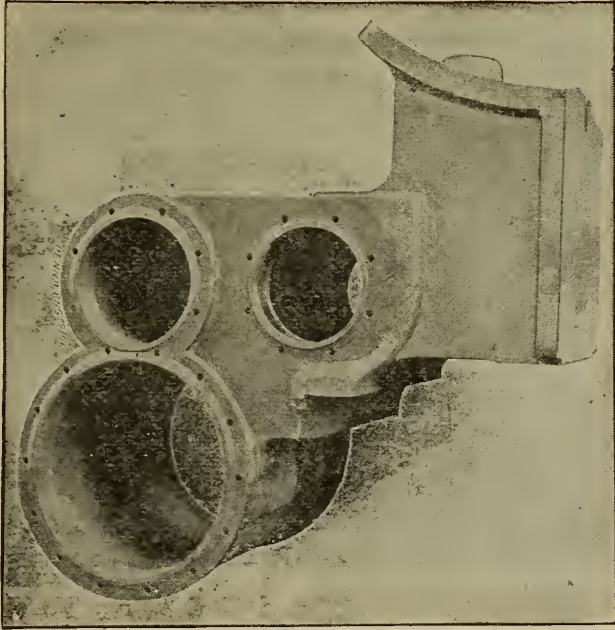
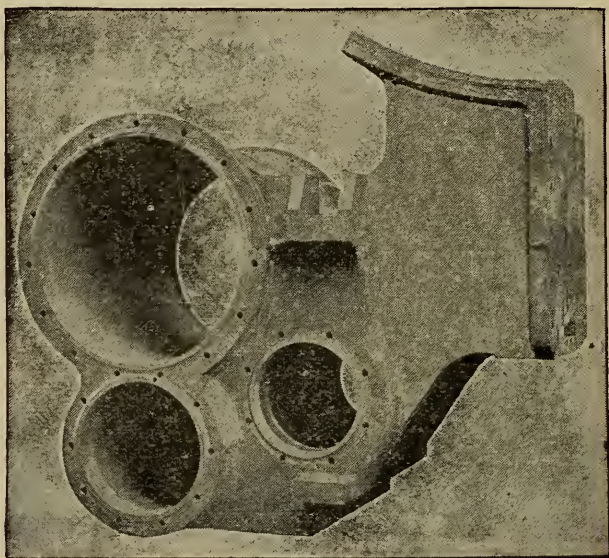

Fig. 56. Cylinders, Valve Chest and Half-saddle, Vauclain Eight-wheeled Compound.
Fig. 57. Cylinders, Valve Chest and Half-saddle, Vaclain Consolidation Compound.
A. Two on each side, one above the other; where the conditions will permit the high-pressure cylinder being put on top as is shown in figure 56, but where the wheels are low, as with consolidation engines, the low-pressure cylinder is above as shown in figure 57.